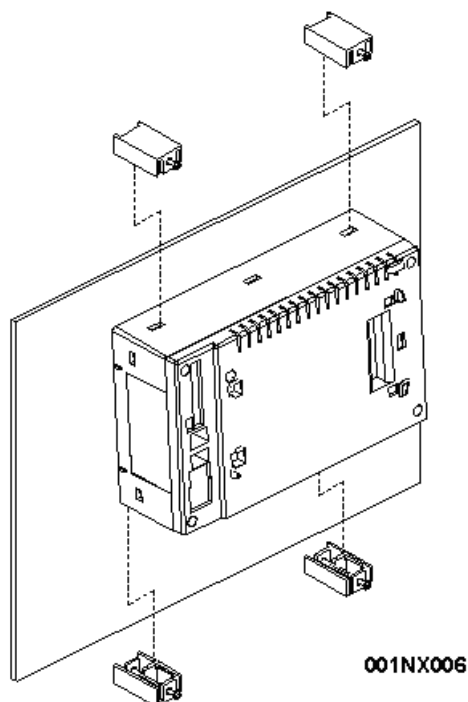

Figure 2.3 – Back View of NX OCS with 4 Standard Mounting Clips
2. Cut the host panel. Per the specifications of Figure 2.3 and Figure 2.3 – carefully prepare the panel cutout. Make sure the corners of the cutout are square and free from burrs. (Panel cut-outs and dimensions are found **Chapter 3**.)